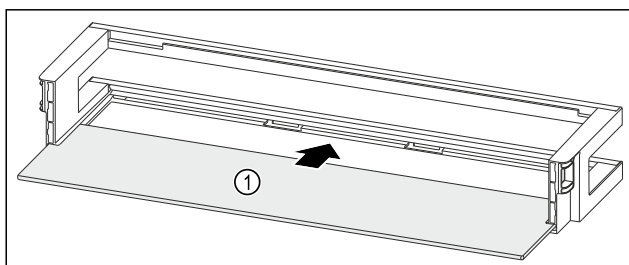

Fig. 214 Door rack with shelf
- Push the shelf Fig. 214 (1) into the side recesses.